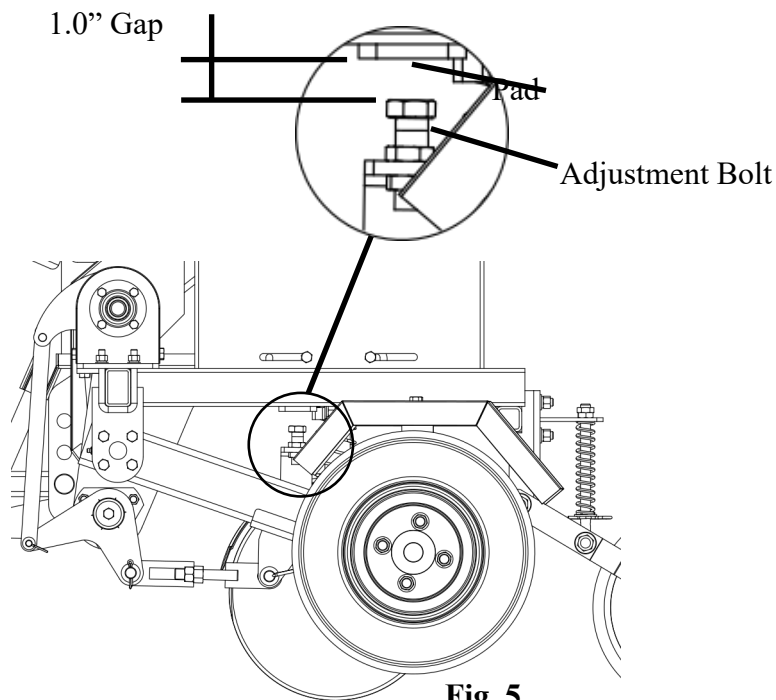

Fig. 5
**Setting Depth:** Raise the transport wheels allowing the machine's disc to rest on a hard surface such as concrete. Check the gap between the seed adjustment bolt head and pad on underside of frame, Fig. 5. Adjust the bolt until there is a 1.0" gap between the head of the adjustment bolt and the pad.